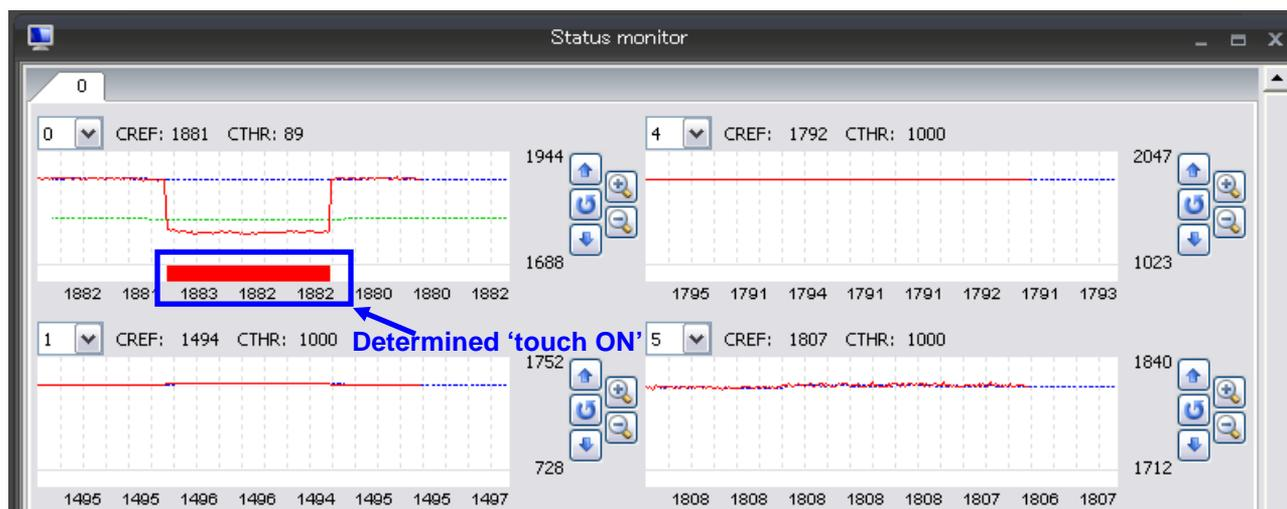

Figure 2-18 Touch OFF/ON Check
(11) Write to data flash in the same way as (4).
(12) When writing is completed, start the Status monitor and click the (Start monitoring) button so that the measurement data are displayed. The input threshold value is enabled and touch/non-touch can be determined as shown in Figure 2-18.